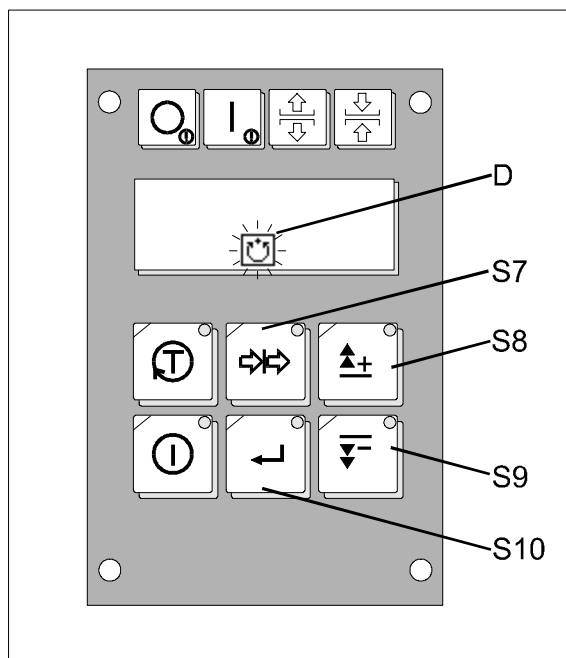

Fig. 15: Operation modes
- Press button S10 on the sprayer's operating panel until the symbol D (operating or control mode) lightens resp. is active (Fig. 15). Each time a button is pressed means that the next symbol is active. Switch over between the two operating modes by pressing buttons S8 and S9.